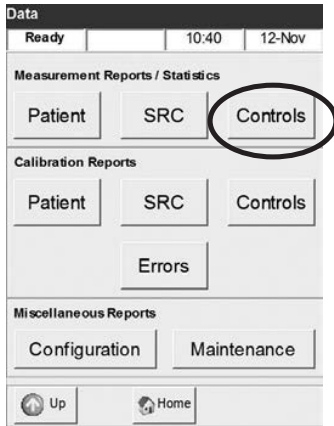

Fig. 4-29 Select Controls
2. Press **<Controls>** (Fig. 4-29).